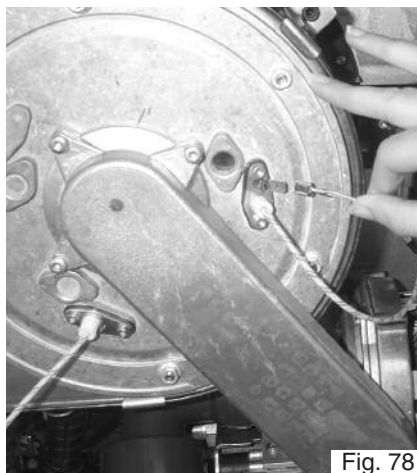

Fig. 78
2. Disconnect the earth cable from the ignition electrode. (Fig. 78);